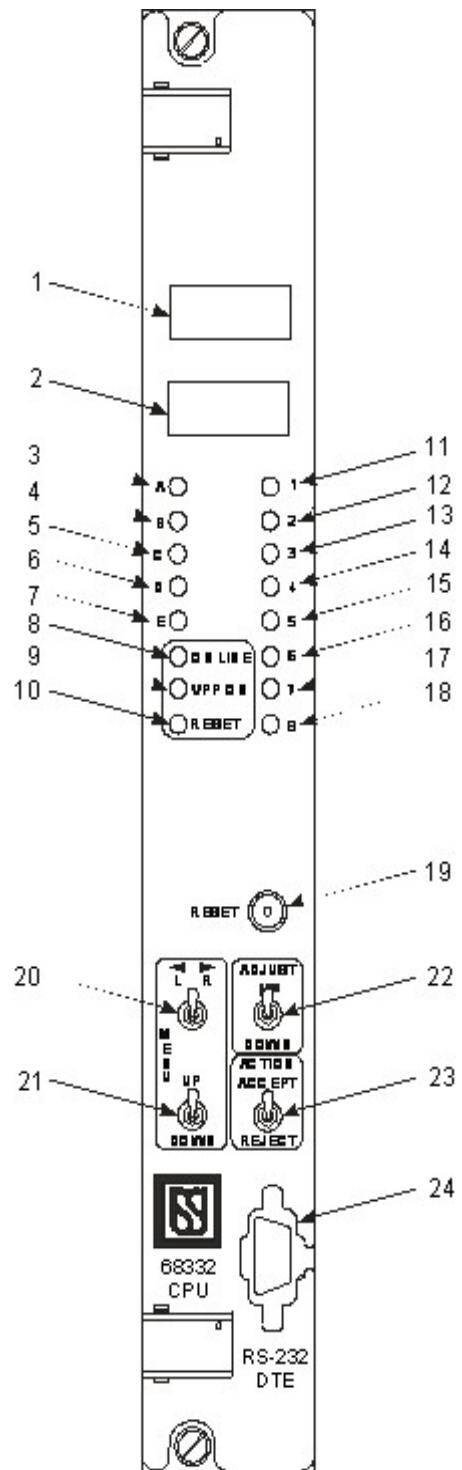

Figure 15-I-02.19 Main Logic CPU Front Panel Layout
Figure 15-I-02.19 illustrated the user displays and switches available on the front of the Main Logic CPU PCB. Table 15-I-02.13 explains the use of the front panel devices.
On the front of the Main Logic CPU PCB there are two (2) Menu toggle switches used to navigate through the menus, and two (2) other toggle switches used to set and confirm values (see Figure 15-I-02.19). Each toggle switch is spring-return to the center position.
Moving to the Left will wrap around the end and move through the menus in the opposite order. See Figure 15-I-02.20.